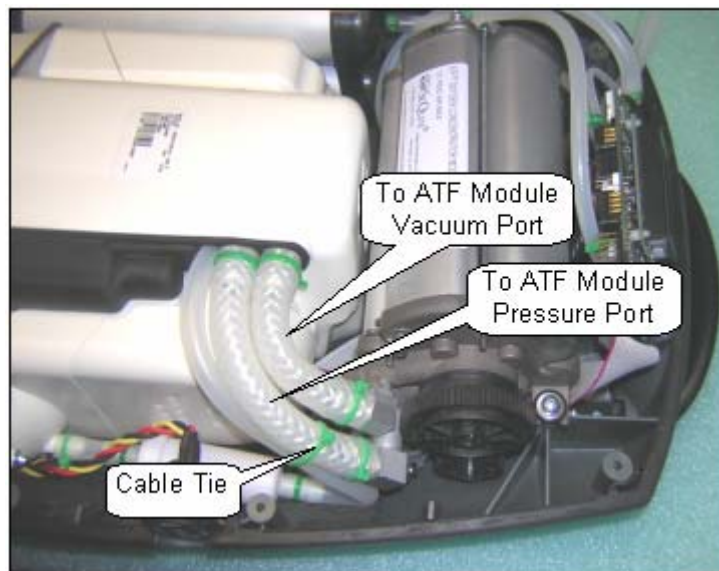

Figure 51: Removal of Compressor Pressure and Vacuum Hoses from ATF Module.
5. Cut the three green cable ties shown in Figure 51. Disconnect the two braided hoses from the pressure and vacuum ports of the ATF. Cap the three ATF module ports using tight fitting vinyl caps or vinyl electrical tape.
10. Install the braided tubes into the ATF pressure and vacuum ports as shown on Figure 51 above. Secure joints with cable ties.
11. Use a cable tie to secure the silicone tube to the braid tube to ensure that there is NO kinking on the bend as shown on Figure 51 above. Hand tightens the cable tie. Inspect the tubing to ensure the tubing is not kinked.